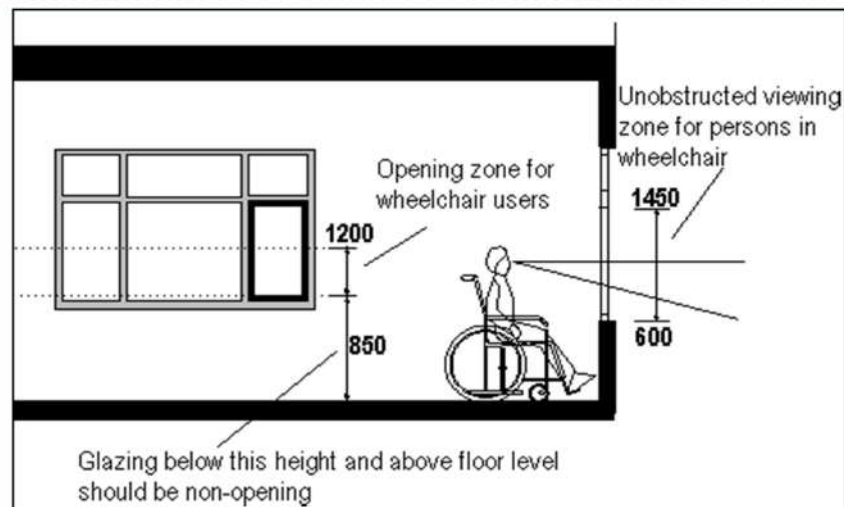

Figure 5.34 Standards for room and windows
- Height of the window should be 600-1450mm, enabling the resident to see out of it, when seated or in bed (**Figure 5.34**)